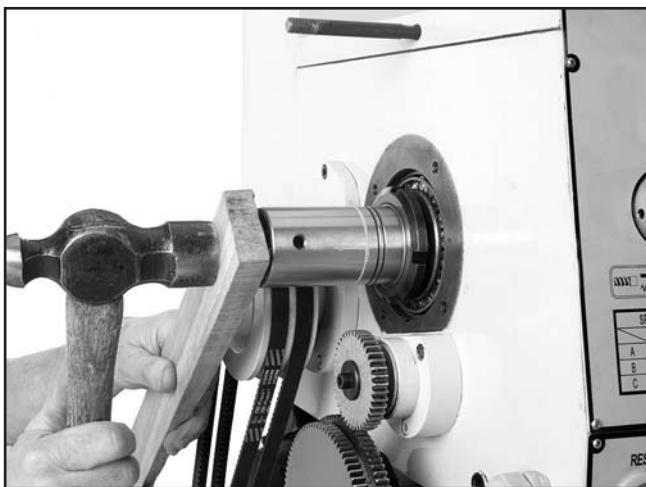

Figure 91. Introducing detectable end-play on a typical lathe.
- Place a wooden block over the outboard end of the spindle, and hit it soundly with a small sledge or heavy dead blow hammer (**Figure 91**). Your goal is to slide the spindle forward just enough to introduce spindle end-play that you can feel by hand.